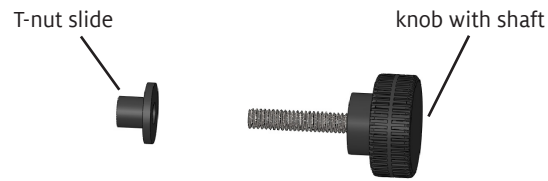

FIGURE 4: INSERT KNOB INTO T-NUT
4. Insert a knob with a 1-1/4" shaft through a T-nut slide as shown in Figure 4. Repeat with the other knob and T-nut slide.